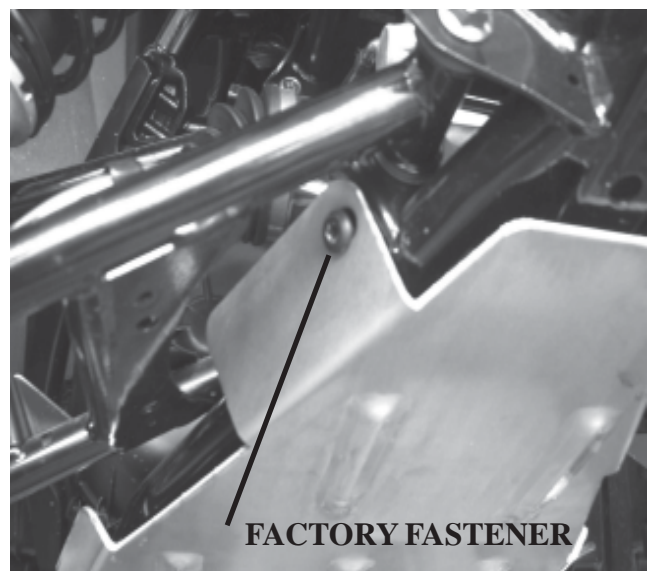

Figure 9
- Fasten the tabs located at the back of the rear skid plate with the 2 fasteners removed in step 4, figure 9